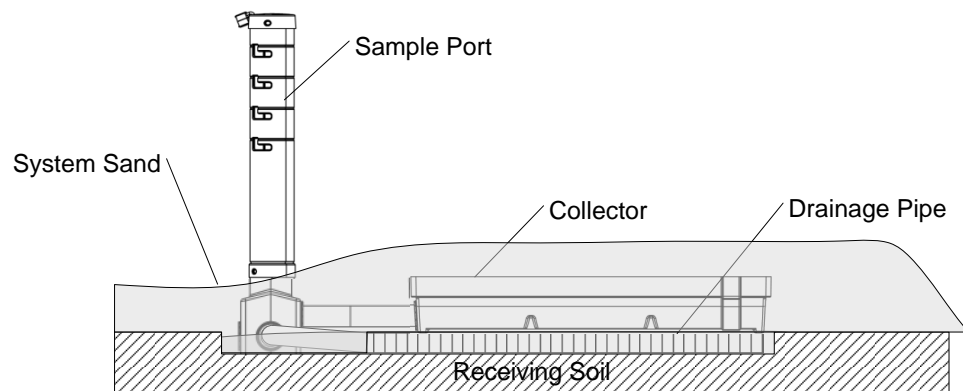

Fig. 54
- Complete the installation of the sampling device as shown in Fig. 54.